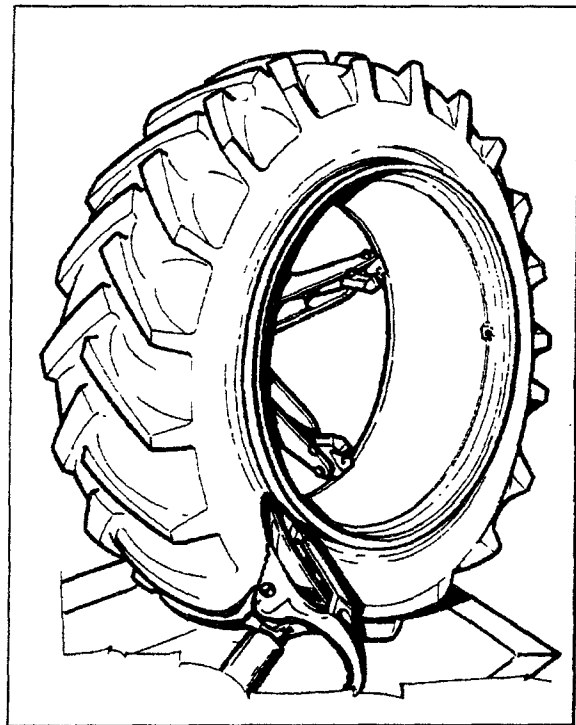

Fig.43
3. Break the outer bead in the same way, taking care not to damage the valve stem (Fig.43).